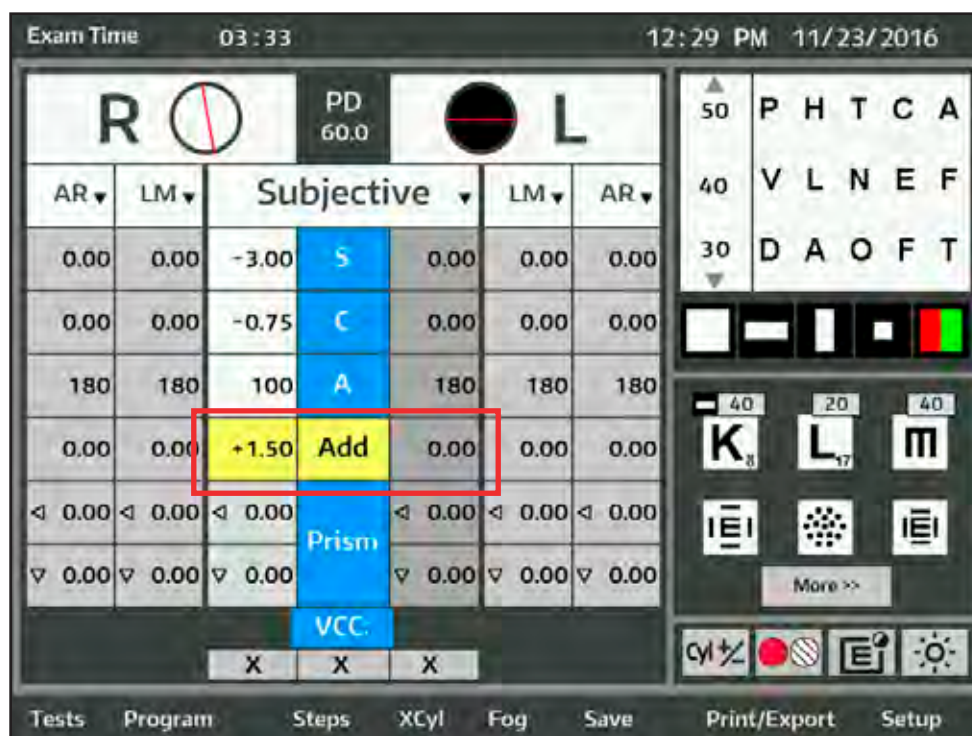

Figure IU-19 Cross Cylinder - Near Vision Test Screen
1. Touch ADD on the main screen. Refer to Figure IU-19.